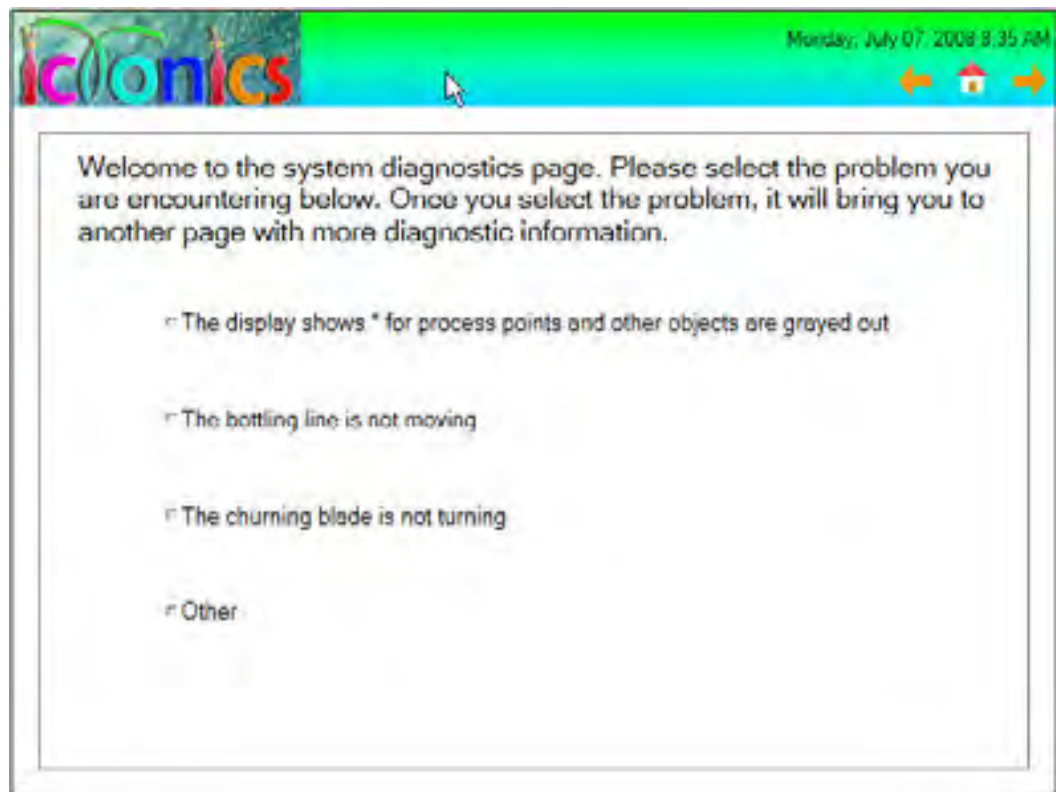

Figure L1.1 - First Help Page
6. As you add a few objects to the display to make a page that is similar to Figure L1.1, set "stretch: none" and "font" to 14 on the right-hand side tool bar.